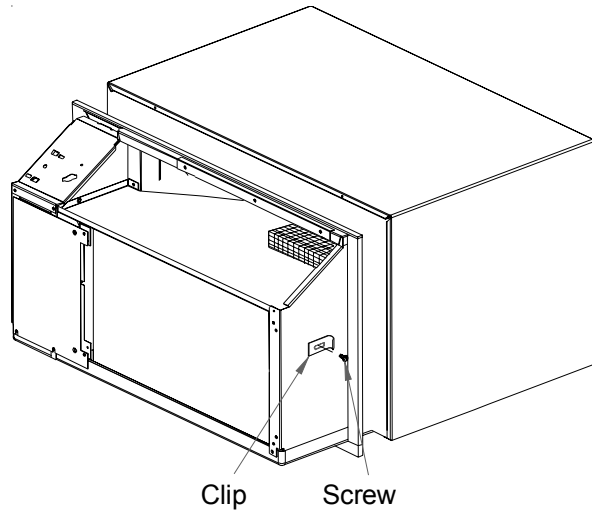

Figure 8
5. Fasten the supplied clips to the exposed sides of the unit using the two #8 x 3/8" blunt sheet metal screws provided (Figure 8).